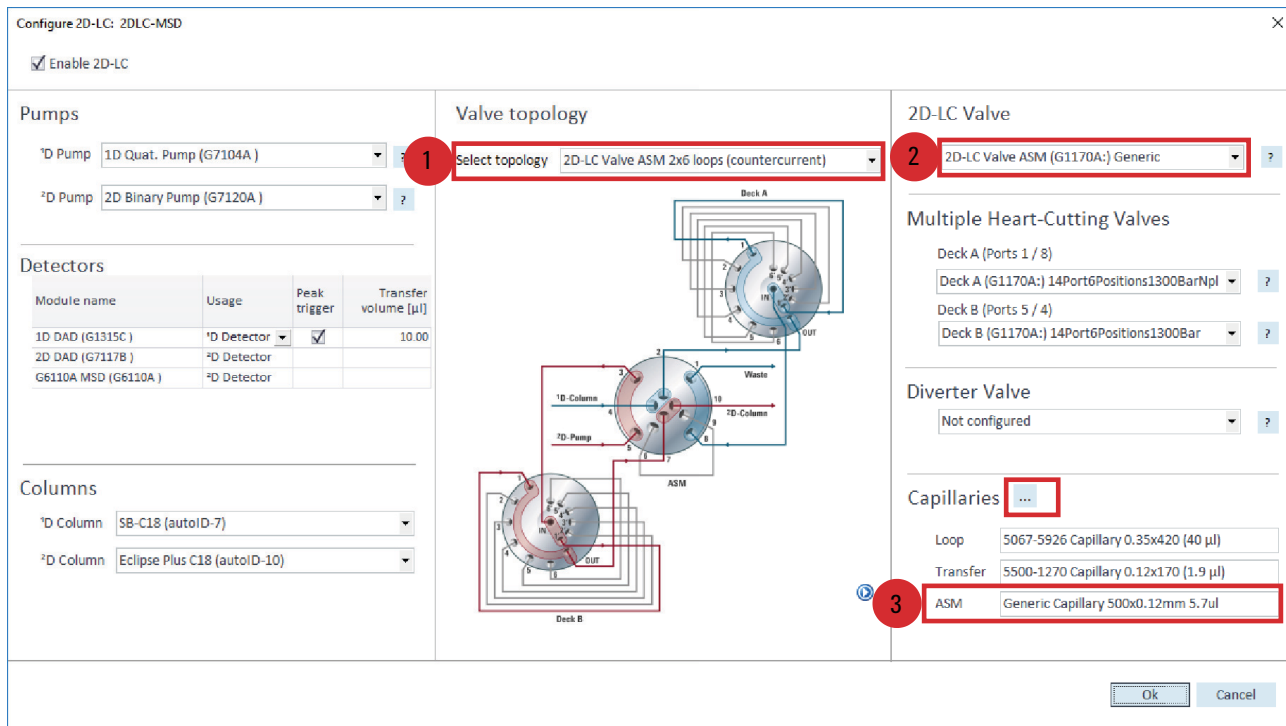

Figure 9 ASM Valve configuration (overview)
- a To configure capillaries, click on **Capillaries...** (see Figure 9 on page 8).
- 4 Install capillary connections as displayed in figure **Valve topology** in the UI, see Figure 9 on page 8.